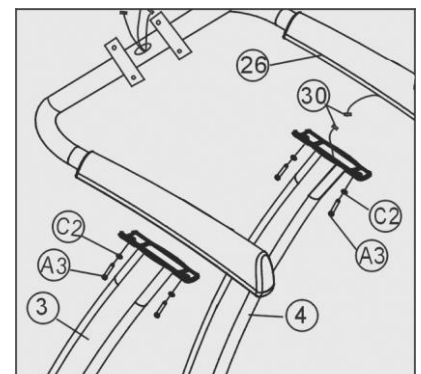

Figure 3
Connect the Wire (power / control wire) (30) from Right support tube (4) to the Wire (power / control wire) (30) comes from Handlebar cover (26), press the surplus cable to right support tube. (See fig 3)
Neaten the wires and secure the Handlebar support frame (7) to the Left & right support tube (3/4) with 4 sets of Hex screw M6\*16 (A3), Flat washer Φ6 (C2) (See fig 3). And then tighten all screws in above steps.